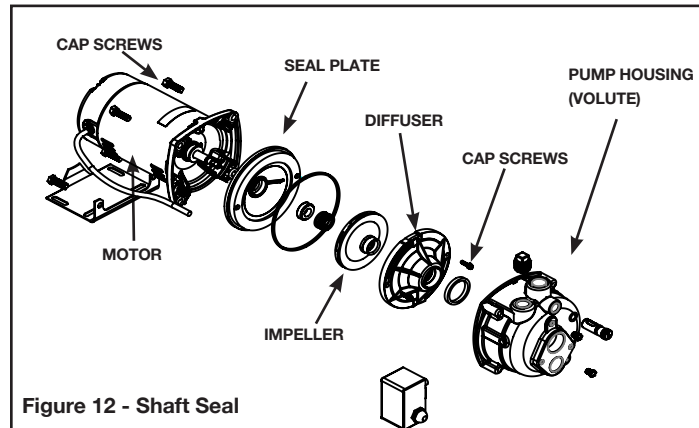

Figure 12 - Shaft Seal
3. Remove the four cap screws holding the pump housing (volute) to the motor (Figure 12).